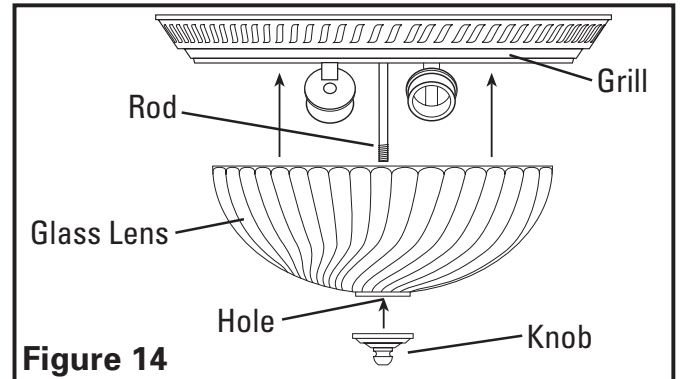

**Figure 13**
4. Line up slots in the grill with lances on inside of housing. Insert included #8 screws through grill slots and into housing lances. Tighten both screws until the grill fits snugly to the ceiling. DO NOT OVER TIGHTEN (**Figure 13**).